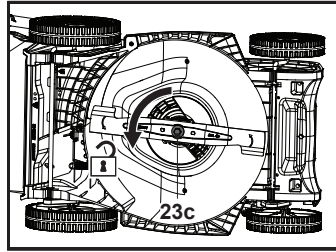

Fig. 18
1. Keep the underbody and cutting blade (23) clean and free of debris. Remove clippings from the rear discharge chute (22).
3. Keep the cutting blade (23) sharp to ensure a good cutting performance. Replace a worn or damaged cutting blade with a new one of the same type or have it sharpened by a qualified specialist.
- Loosen the mounting bolt (23c) counterclockwise using a suitable electric impact wrench (socket size 13 mm) (Fig. 18), remove it together with the cup washer (23b) and the cutting blade (23).